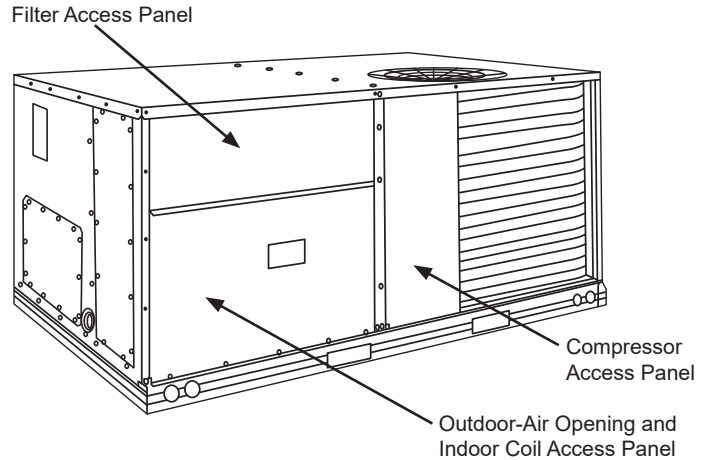

Fig. 2 - Typical Access Panel Locations
Step 2: Remove the existing unit filter access panel. Raise the panel and swing the bottom outward. The panel is now disengaged from the track and can be removed. See Figure 2. Set the filter door aside for re-installation later.
Step 3: Remove the indoor coil access panel and discard. See Figure 2.